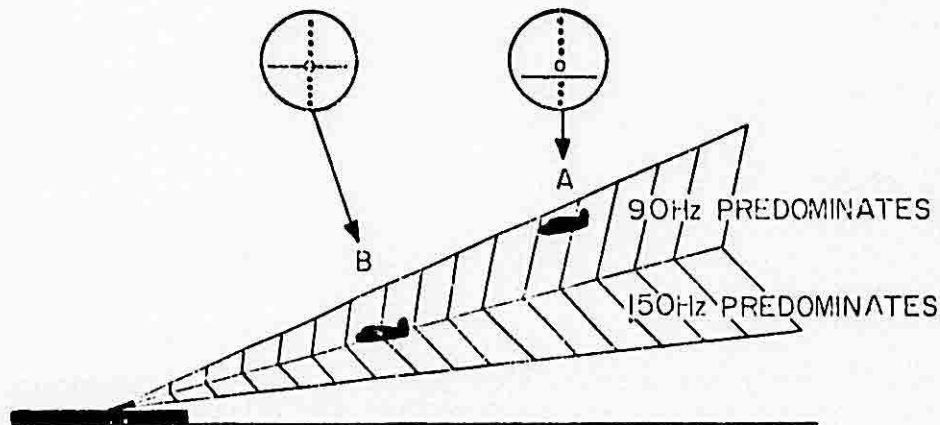

FIGURE 4-1 GLIDEPATH
4.1 PRINCIPLES OF THE GLIDESLOPE SYSTEM (Figure 4-1)